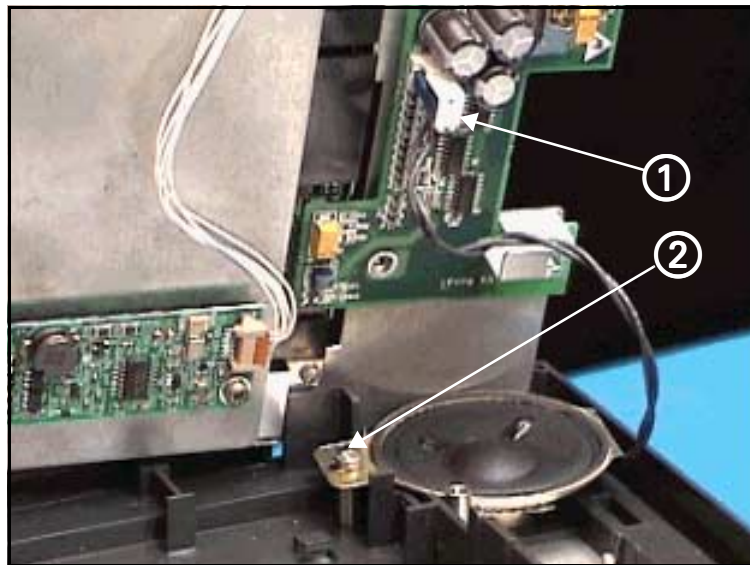

Figure 3-7 Speaker Subassembly Connector
1. After removing TFT-LCD Display Subassembly (refer to Section 5.5) remove and save screw (② in Figure 3-7 on page 31).